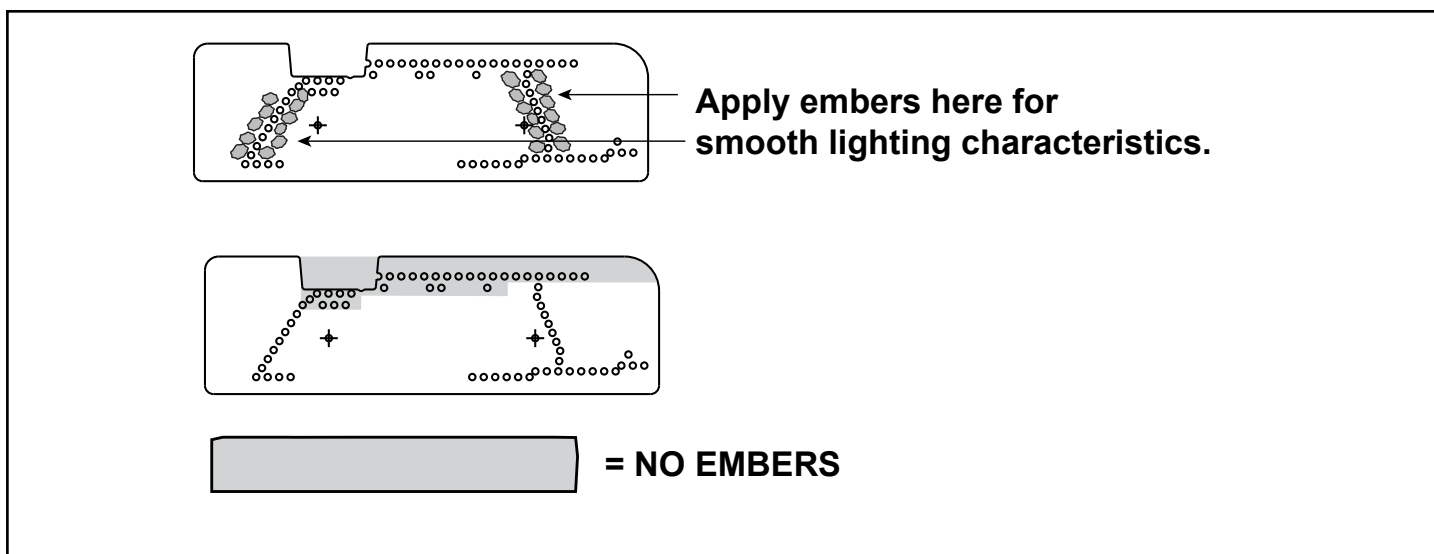

Figure 11.12 Burner Media / Ember Placement
- Embers may only be placed in areas as shown in Figure 11.12.